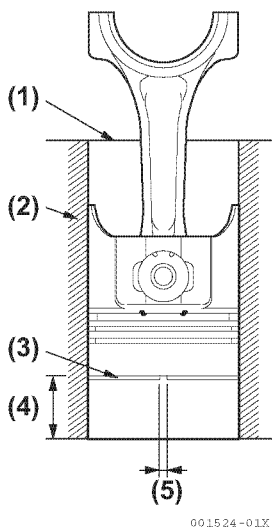

Figure 5-91
- Push the piston ring into a cylinder and measure the piston ring gap with a feeler gauge. Push the ring to about 30mm (1.2 in.) from the bottom of the cylinder skirt (**Figure 5-91**).